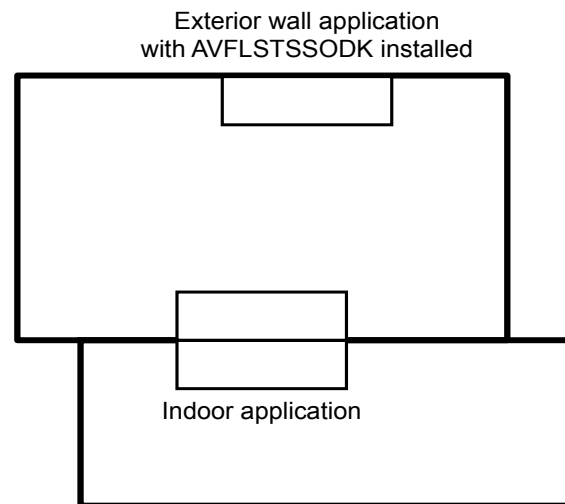
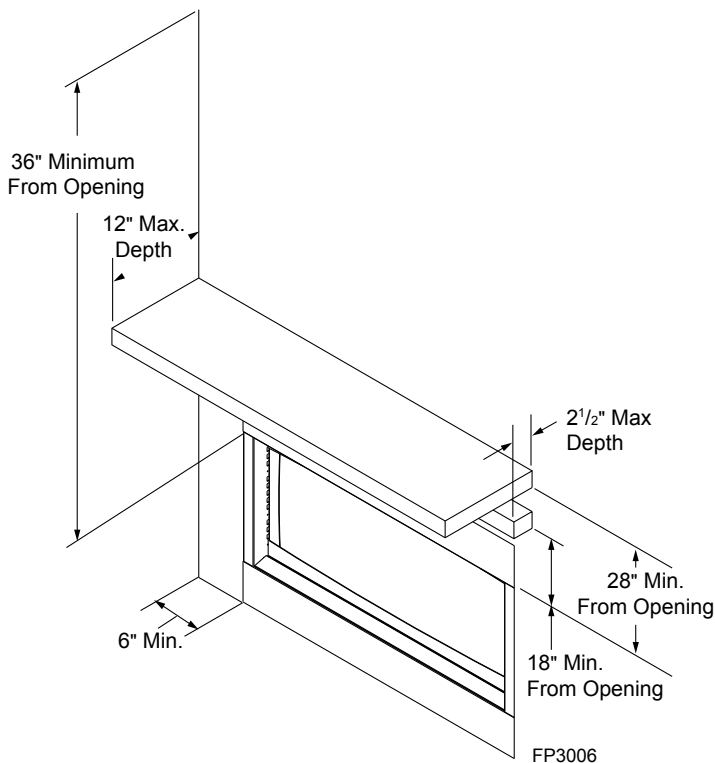

Figure 5. Possible Fireplace Locations
Figure 6. Sidewall and Ceiling Clearances
1. Position fireplace in desired location. Refer to the Fireplace and Framing Dimensions (page 6, Figures 2 and 3,) Fireplace Location (page 8, Figure 5) and Clearances and Height Requirements (page 9, Figures 6 and 7.)
- Minimize modifications to existing construction. Refer to Figure 5 below for location suggestions.
Ensure that minimum clearances shown in Figures 6 and 7 are maintained. Left and right clearances are determined when facing the front of the firebox.
Sidewall Clearances — The clearance from the inside of the appliance to any combustable adjacent wall should not be less than 6". Figure 6
Ceiling Clearance — The ceiling or any other combustable material must be at least 36" from the firebox opening. Figure 6
The dimensions shown in Figures 5 and 6 are minimum clearances to maintain when installing this heater. Left and right clearances are determined when facing the front of the heater.
Mantel clearances — Must meet the clearance requirements detailed in Figures 6 and 7.